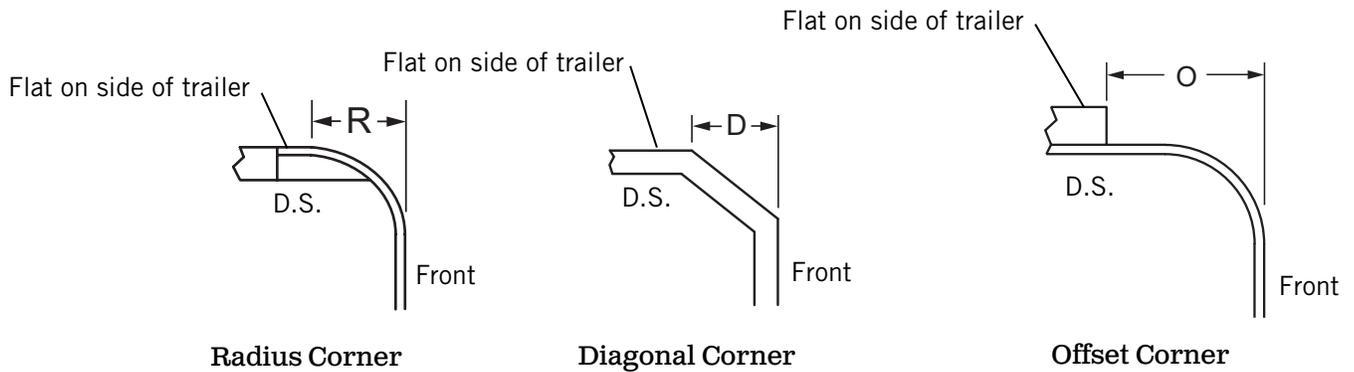

Figure 5-1
- 1) **Figures 5-1 & 5-2.** Mark the top rail where flat on side of trailer starts. Also mark 10" from there for heavy duty bows. The dimension of the **Radius, Diagonal, or Offset.**